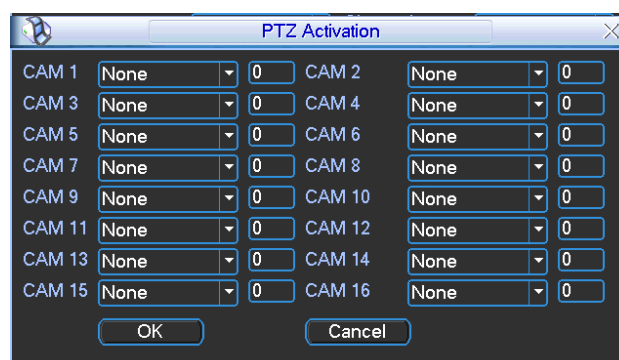

Figure 4-21
- PTZ activation: Here you can set PTZ movement when alarm occurs. Such as go to preset, tour & pattern when there is an alarm. Click "select" button, you can see an interface is shown as in Figure 4-21.